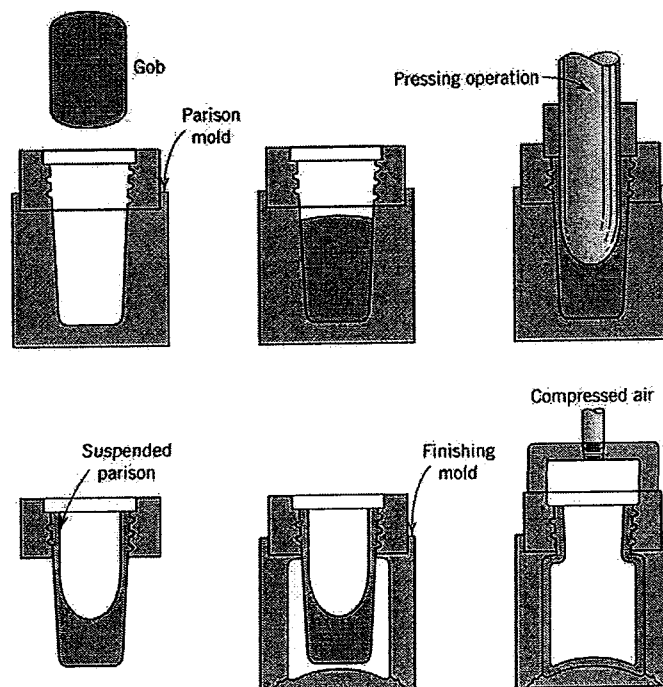

Figure 8 - glass forming technique
28. There are different types of forming technique used to produce glass product. What is technique used in the Figure 8?